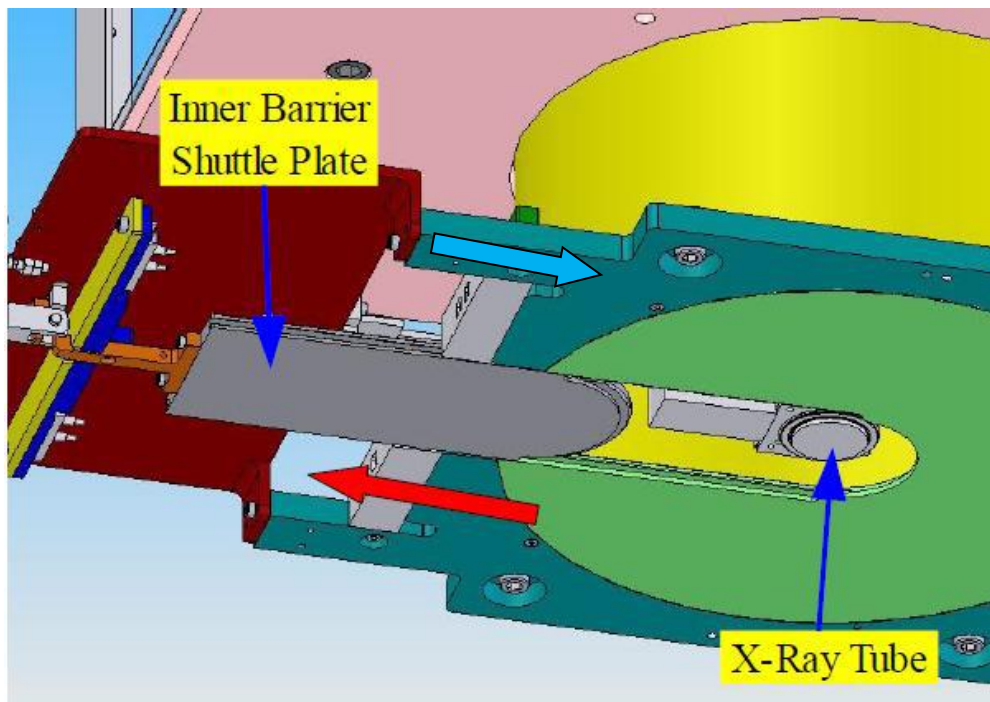

Figure 15 Tube target clearance checking
19. Manually push the inner barrier shutter plate, ensure X ray tube bottom target is **NOT** contain any **friction** with Inner Barrier Shutter Plate as Figure 15.